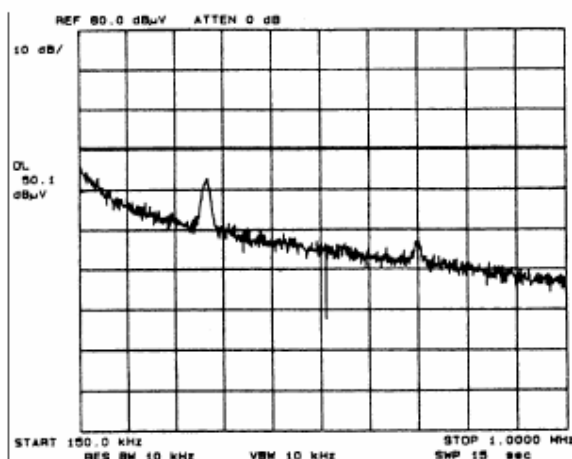

Figure 3. Voltage Spectrum of On-board Radio Reception
- Test conditions referring to Figure 3